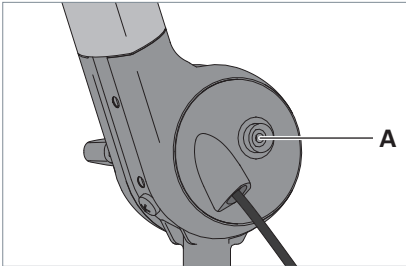

Fig. 5: Pushbutton for grounding cable.
- ▶ Connect one end of the provided grounding cable to the pushbutton **A** of the light, see Fig. 5.